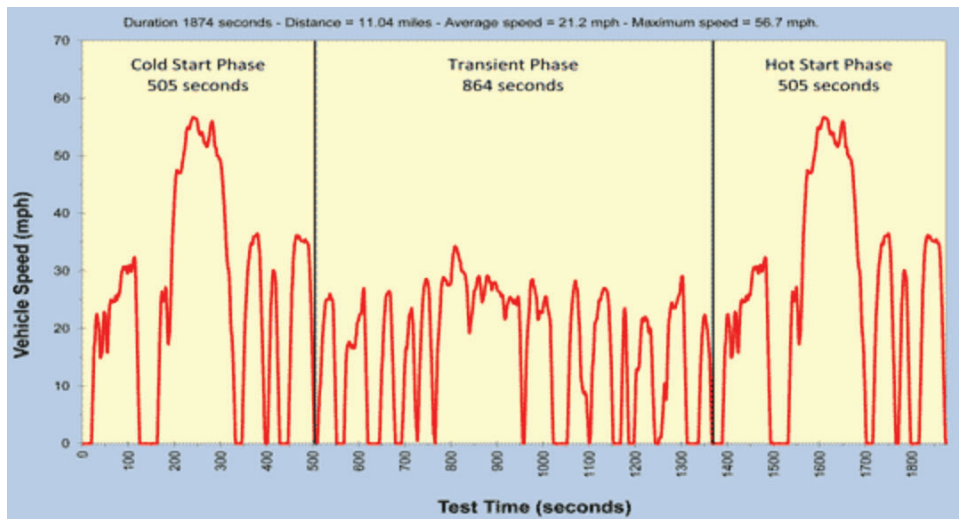

Figure 2. One FTP-75 Test Cycle Speed Trace
- **FTP-75**: The FTP-75 is another variation of the EPA Urban Dynamometer Driving Schedule (FTP-72) and is the primary test cycle used for certification. It is derived from the Urban Dynamometer Driving Schedule (FTP-72) by adding a third 505 second phase to the test cycle following a 10 minute engine-off soak. The third phase is identical to the first phase of FTP-72. The FTP-75 is also described in 40 CFR Part 86 Appendix I (a). Prior to a the FTP-75 test, the vehicle must go through a 12 to 36 hour “cold soak” period¹³ after the prep cycle during which the engine cannot be started. Figure 2 shows the speed trace of a single FTP-75 test cycle.